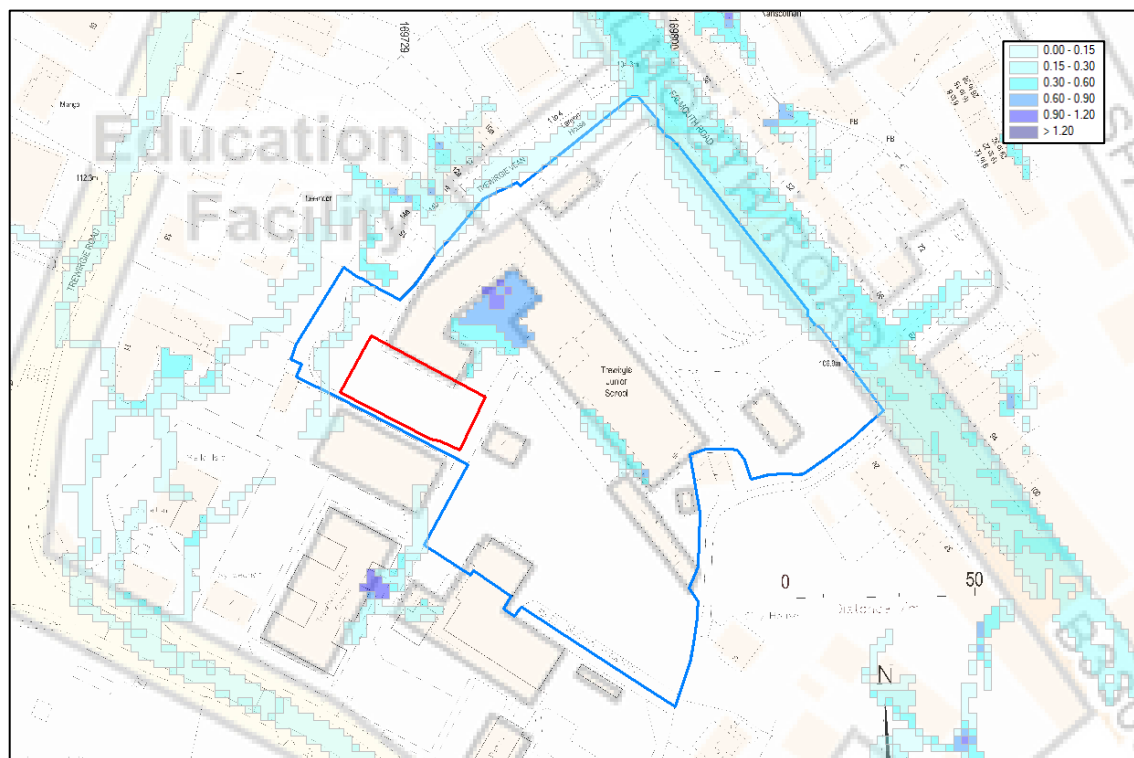

Figure 8: EA RoFSW 1:1000 year flood depths (Sources: EA, OS)
- 4.10 The EA Risk of Flooding from Surface Water (RoFSW) dataset indicates that the proposed classrooms and associated redline application boundary would remain unaffected in the 1:1000 year pluvial event (Figure 8).